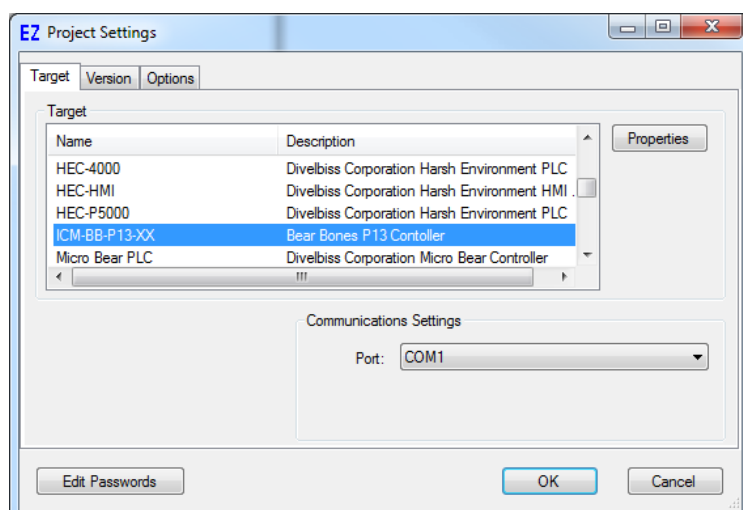

Figure 2-2 - Project Settings
1. In EZ LADDER, from the File Menu at the top, click **PROJECT** then **SETTINGS**. This will open the Project Settings Window. Select **ICM-BB-P13-XX** as the target from the choices. Refer to Figure 2-2. Verify the correct COM Port is selected.